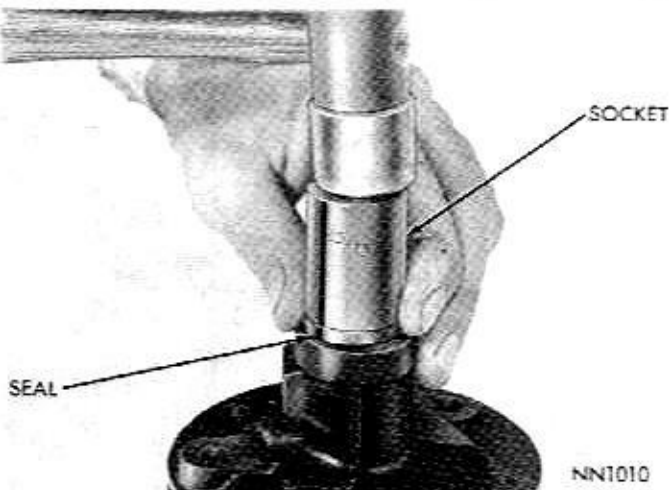

Fig. 11—Oil Seal Installation
(1) Place pump body on flat surface and drive new drive shaft seal into bore with a 7/8 or 15/16 inch socket till seal bottoms on shoulder (Fig. 11).